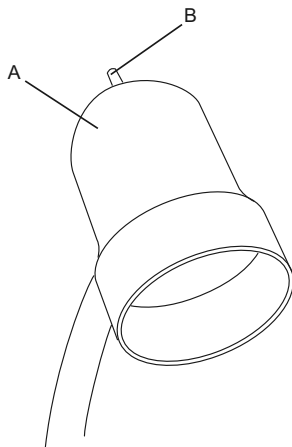

Figure 7 - Work light.
Refer to Figure 7
The Flexible Work Light may be turned "ON" or "OFF" by using the rotary switch (B) on the top surface of the housing (A). The switch can be rotated in the clockwise direction only. See Figure 7.